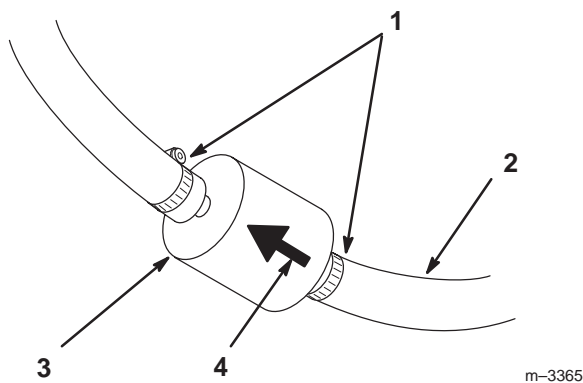

Figure 40
4. Squeeze the ends of the hose clamps together and slide them away from the filter (Fig. 40).